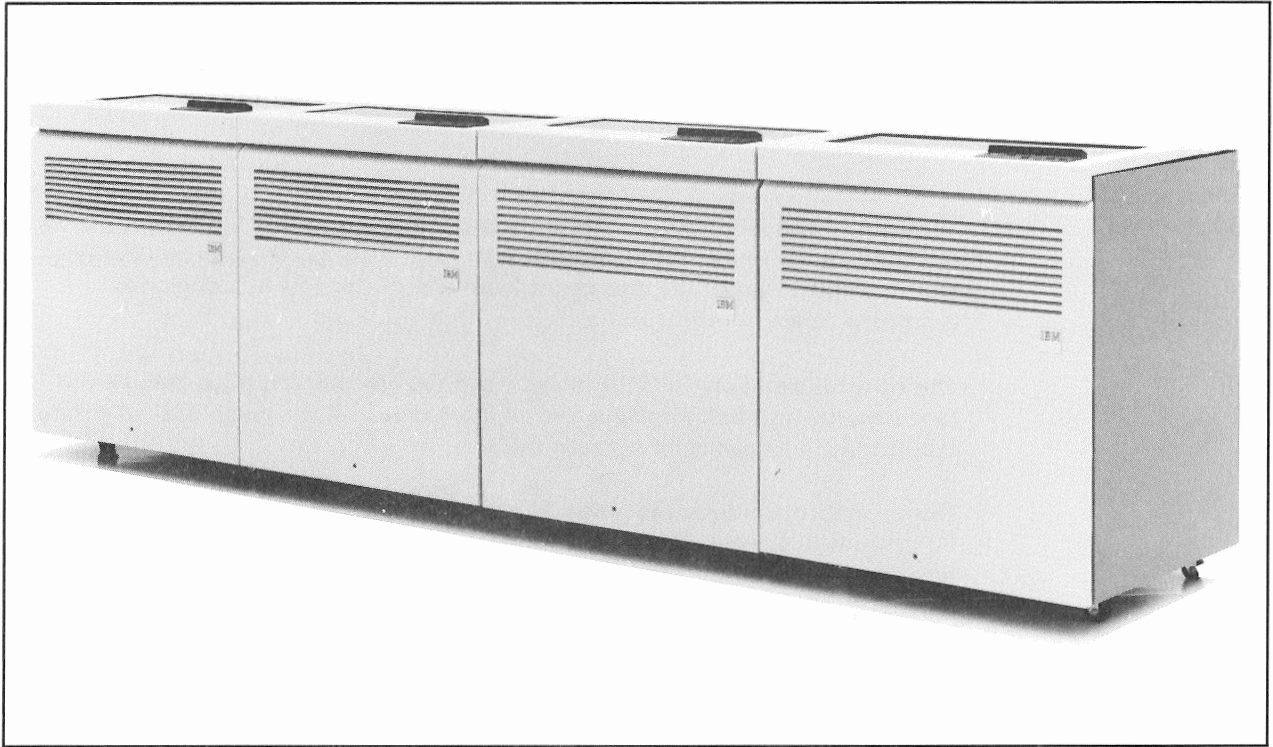

Figure 4-3430-1. 3430 Magnetic Tape Subsystem
The 3430 Magnetic Tape Subsystem (Figure 4-3430-1) is a half-inch-tape subsystem that reads and writes data in Group Coded Recording (GCR) mode and Phase Encoded (PE) mode at a lower cost than previous IBM tape subsystems that have the same recording capabilities. The 3430 subsystem records data in GCR mode at 246 bytes per millimeter (6250 bytes per inch) and in PE mode at 63 bytes per millimeter (1600 bytes per inch).